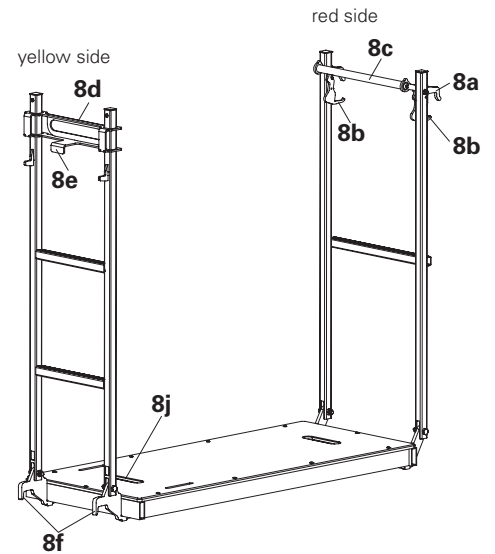

Fig. A1.06
- Fit the deck with both hooks (8a) of the red side on the side of the gravity pin of the ledger braces. (Fig. A1.06)
3. Hold the deck board using the grip hole (8j) and fold downwards. (Fig. A1.06 + A1.07)